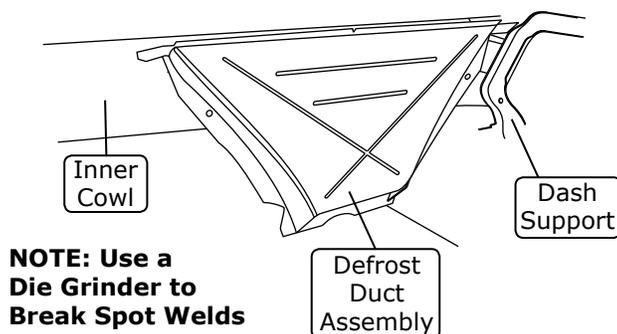

Figure 3
9. Using a chisel or die grinder, remove the spot welds on the defrost duct (See Figure 3, below).